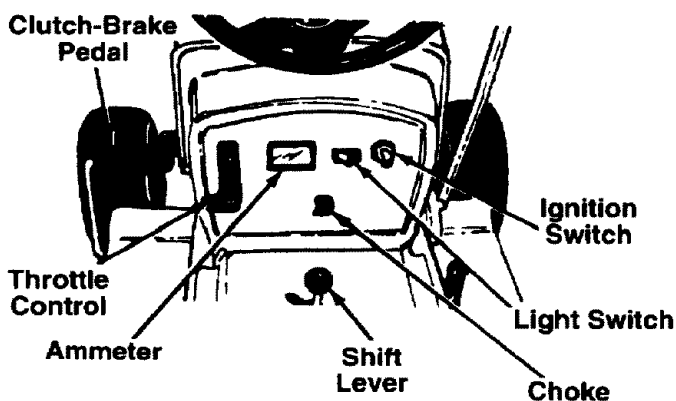

FIGURE 9.
The throttle control is used to regulate the engine speed. To get maximum efficiency from cutting, the throttle should be in the FAST position when operating the mower. See figure 9.
The choke control is located on the dashboard and is operated manually. Details for the choke operation are covered in the separate engine manual packed with your unit. See figure 9.
The shift lever is located in the center of the console and has three positions, FORWARD, NEUTRAL and REVERSE. See figure 9. The clutch-brake pedal must be depressed and the lawn tractor must not be moving when shifting gears. Do not force the shift lever. Release the clutch-brake pedal slightly to line up the shifting collar in the transmission. Then try to shift gears.
Turn the key to the START position to start the engine. When the engine is running, let the key return to the ON position. To stop the engine, turn the key to the left to the OFF position and remove it to prevent accidental starting. See figure 9.
The ammeter registers the rate of battery charge or discharge. The ammeter will register on the discharging side when starting the engine. It should register on the opposite side (charging) when the engine is running in the fast position until the battery is completely charged. With a fully charged battery or with the engine idling, the ammeter will not show a charge. See figure 9.
The clutch-brake pedal is located on the left side of the lawn tractor. Depressing the clutch-brake pedal part way disengages the clutch. Pressing the pedal all the way down disengages the clutch and engages the disc brake. See figure 9.
3. Set the throttle control in the FAST position. See figure 9.
5. Turn the ignition key to the START position. When the engine is running, let the key return to the ON position. See figure 9.